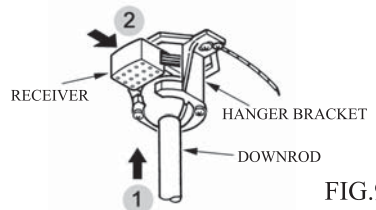

FIG.9
- Carefully lift the fan and seat the downrod ball assembly on the hanger bracket. Be sure the groove in the ball is lined up with tab on the hanger bracket. Do not pinch wires between the ball and downrod assembly and hanger bracket. ( See Fig. 9 )